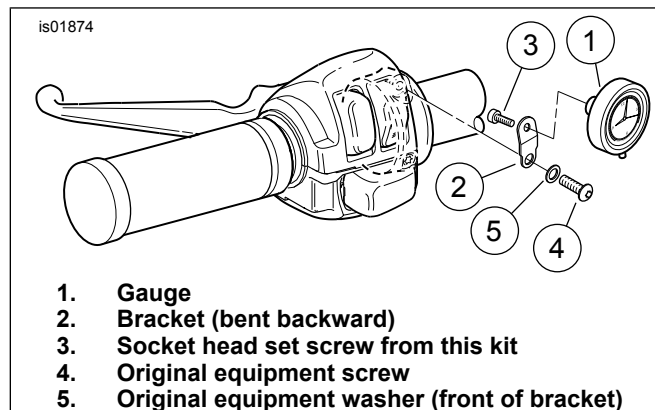
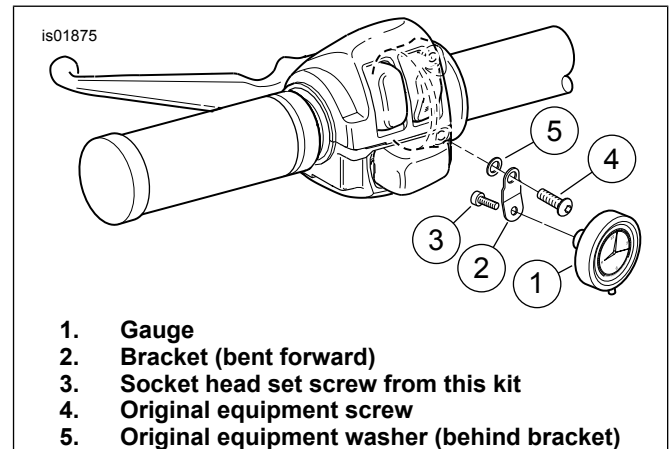

Figure 1. Gauge Bracket Mounted to Upper Screw (Left-Hand Shown)
Figure 2. Gauge Bracket Mounted to Lower Screw (Left-Hand Shown)
1. See Figure 1 and Figure 2. Using a T27 TORX drive head, remove the desired screw (upper or lower) with flat washer securing the handlebar clamp to the hand lever bracket.